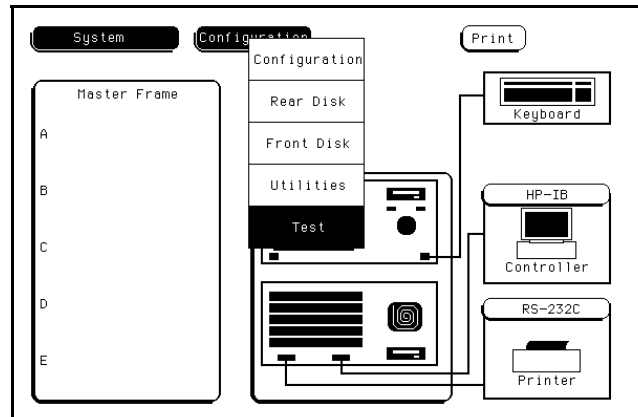

Figure 4-2. Accessing the Test System
2. Touch the **Configuration** field, then touch the **Test** field from the pop-up menu. See figure 4-2.